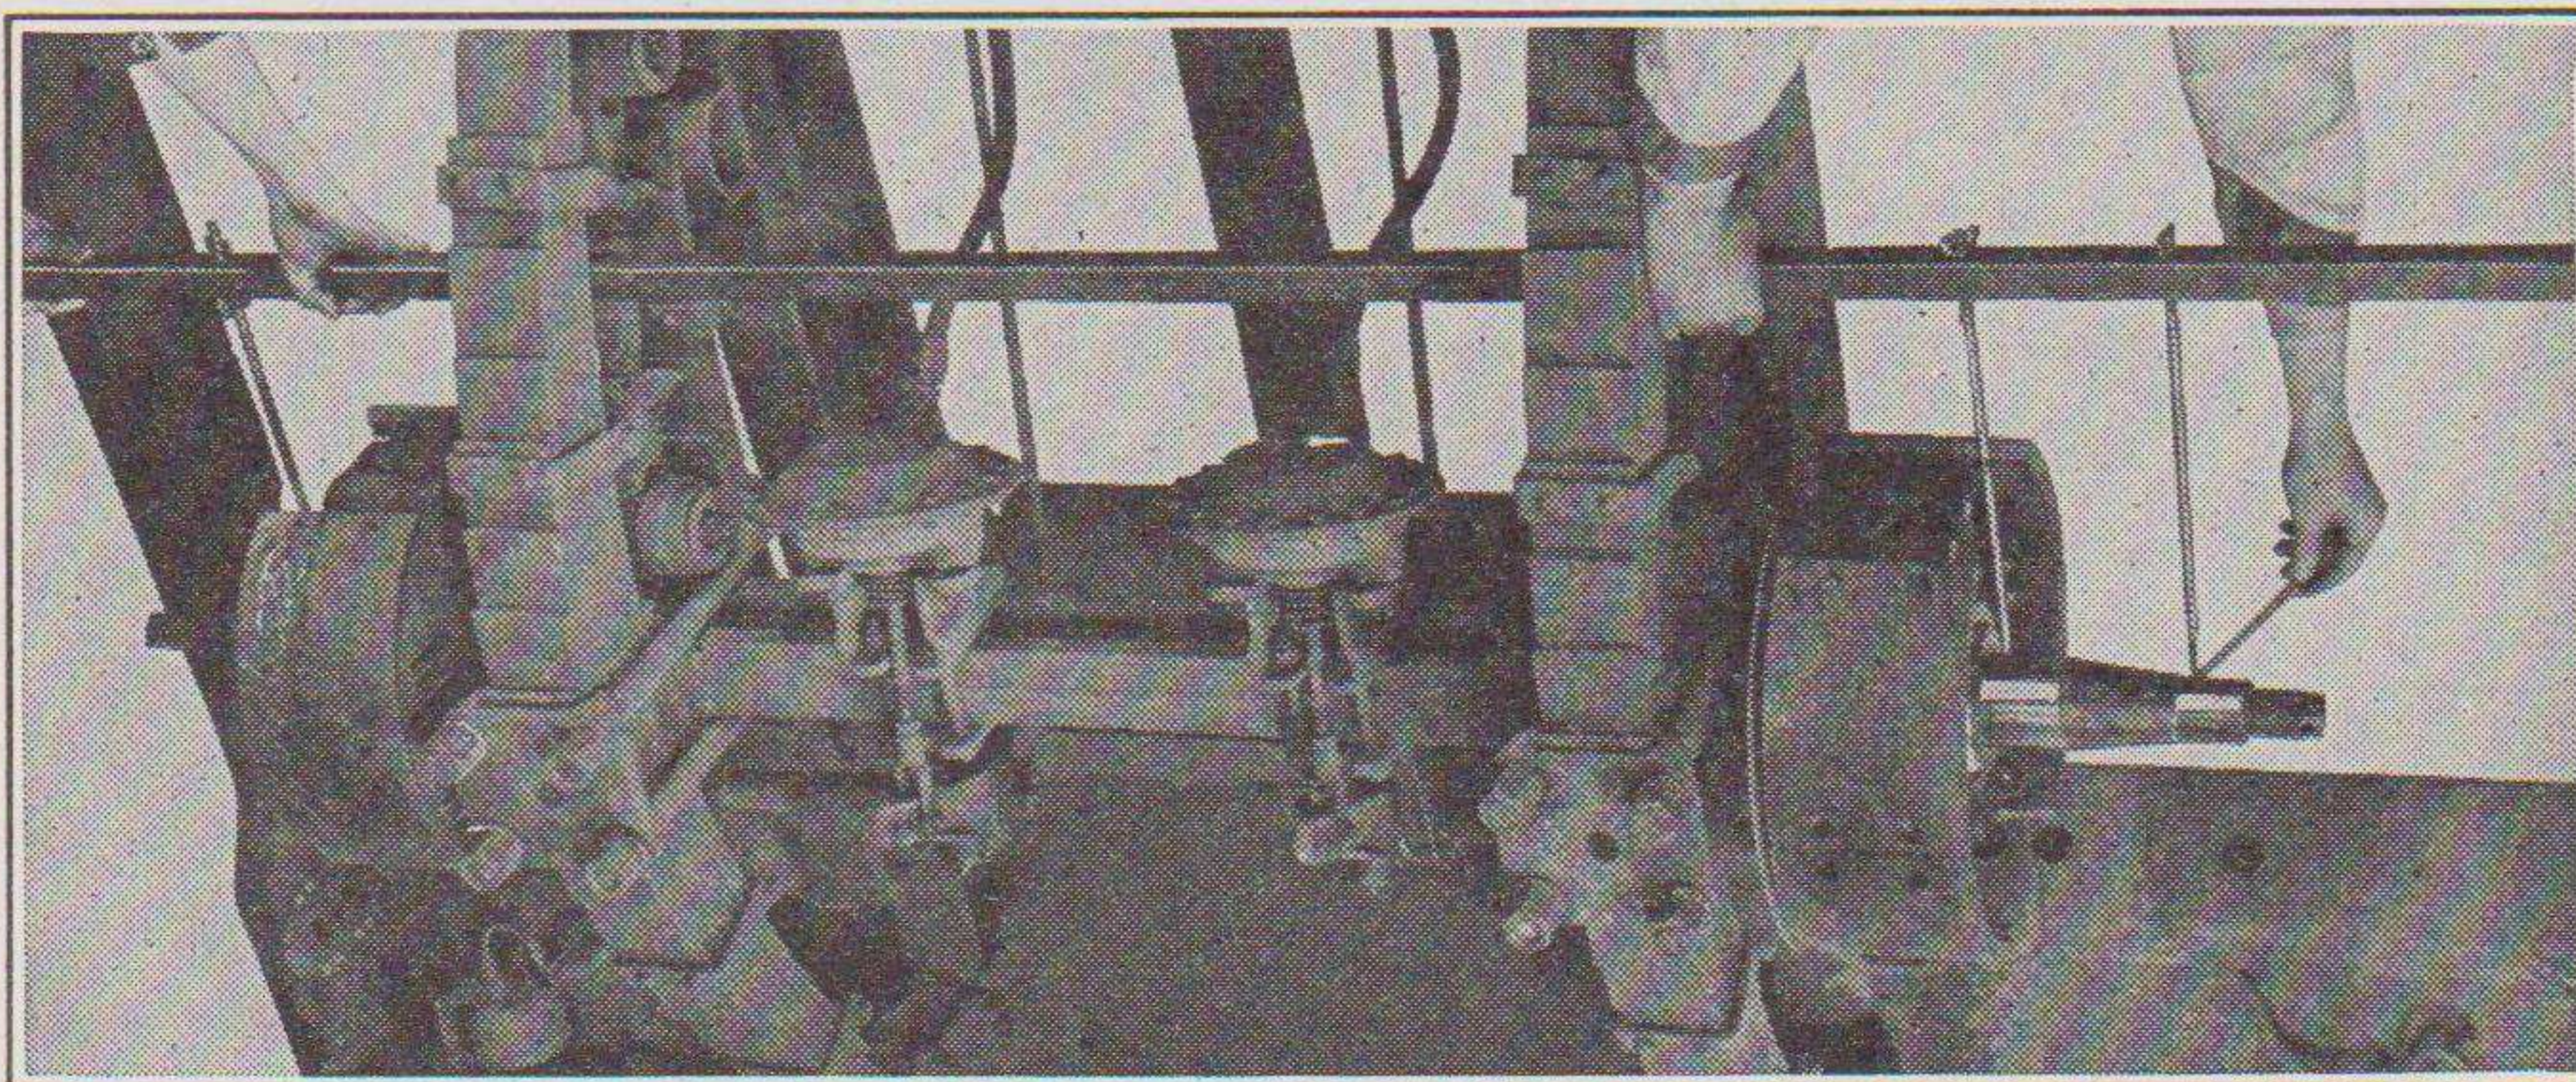

FIGURE 8. CHECKING AXLE FOR BEND
4. CHECKING FOR BEND (Refer to Figure 8).—*a.* Place the axle gauge in position on the front side of the axle.